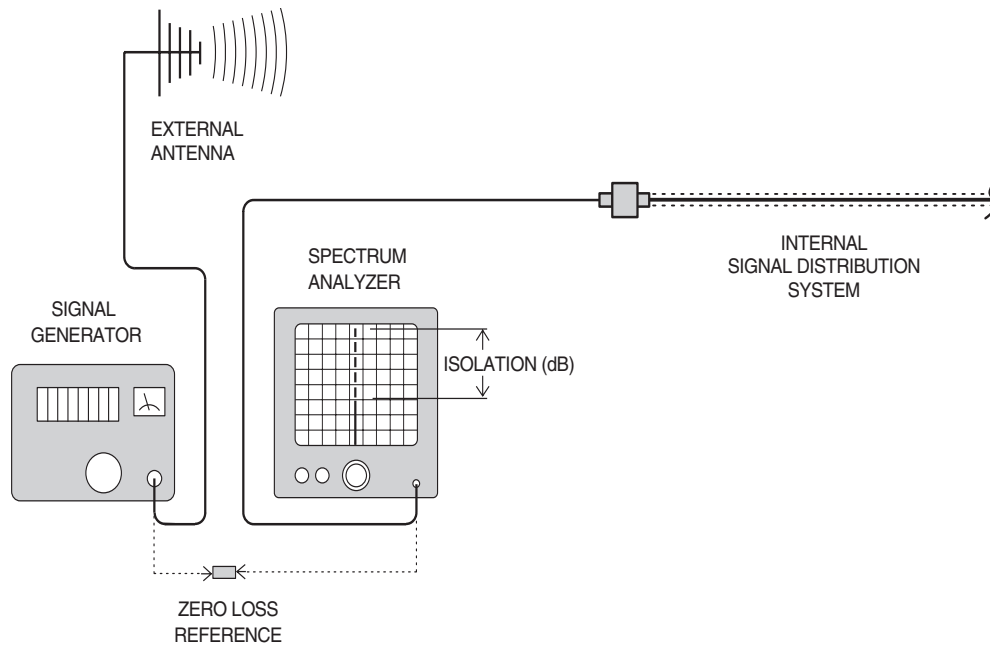

Figure 4: Typical test equipment interconnection for measuring antenna isolation.
- 3) Connect the test leads of the signal generator and the spectrum analyzer together using a female barrel connector, see **Figure 4**. Observe the signal on the analyzer and adjust the input attenuator of the spectrum analyzer for a signal level that just reaches the 0 dBm level at the top of the graticule.
- 4) Referring to figure 4, connect the generator test lead to one side of the signal distribution system (external antenna) and the spectrum analyzer lead to the other (internal distribution system) and observe the signal level. The difference between this observed level and 0 dBm is the isolation between the sections. If the signal is too weak to observe, the spectrum analyzer's bandwidth may have to be narrowed and its input attenuation reduced. Record the isolation value. **The isolation value measured should exceed the signal booster's gain figure by at least 15 dB.**